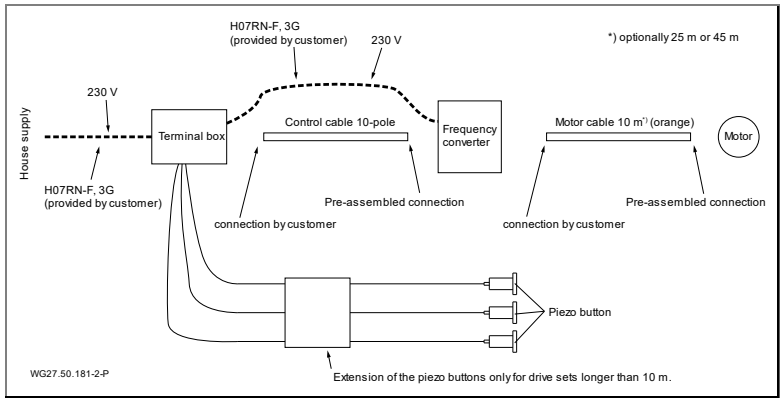

Fig. 18
14. The wires for the PTC (brown or black (BR1)/white (BR2)) must be connected according to the circuit diagram. See "Fig. 18" on page 35